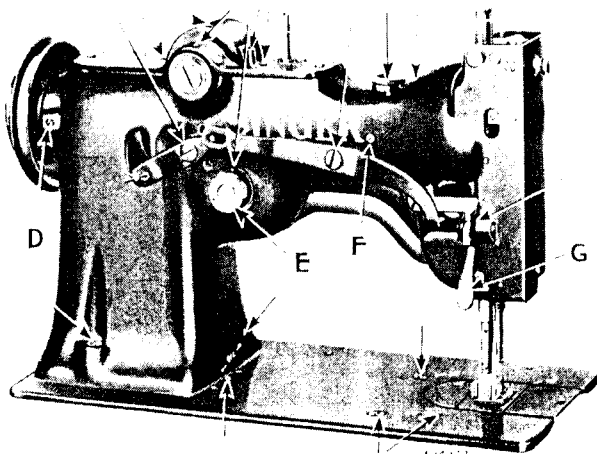
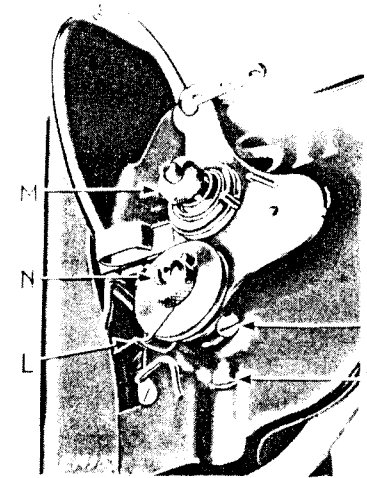

Fig. 3. Oiling Points and Adjustments at Rear of Machine
Fig. 18
For convenience in taking out the work, the tension of the upper thread is released by raising the presser foot with the lifter (G, Fig. 3); but is not released by thick goods or seams passing under the presser foot. Do not try to adjust the upper tension (M, Fig. 18) when the presser lifter is up as the tension is then loose.
Causes of the machine not working properly will usually be found in the tension not being correctly adjusted, or its discs may be clogged with lint or knots of thread or the thread controller spring (L, Fig. 18) may not have the correct tension (this is important); the thread may be too coarse or too fine for the needle, or the needle and thread too coarse or too fine for the throat plate, or the needle bent or blunt. See that a straight needle is pushed up in the needle bar as far as it should go; any particle of lint or dirt which prevents it from going up can be removed through the cross hole in the needle bar.
THE TENSION ON THE NEEDLE THREAD SHOULD ONLY BE REGULATED WHEN THE PRESSER FOOT IS DOWN. Having lowered the presser foot, turn the thumb nut (M, Fig. 18) at the front of the tension discs over to the right to increase the tension. To decrease the tension, turn this thumb nut over to the left.
For more controller action on the thread, loosen the stop screw (O, Fig. 18) under the controller discs, and set the stop lower. For less action, set the stop higher. The position of the controller spring (L) shown in Fig. 18 is the best average setting for stitching fine fabrics and light leathers.
To strengthen the action of the controller spring on the thread, loosen the tension stud screw (P, Fig. 18), and turn the tension stud (N) slightly to the left with a screwdriver. To lighten the spring action, turn the stud to the right, then tighten the tension stud screw (P).